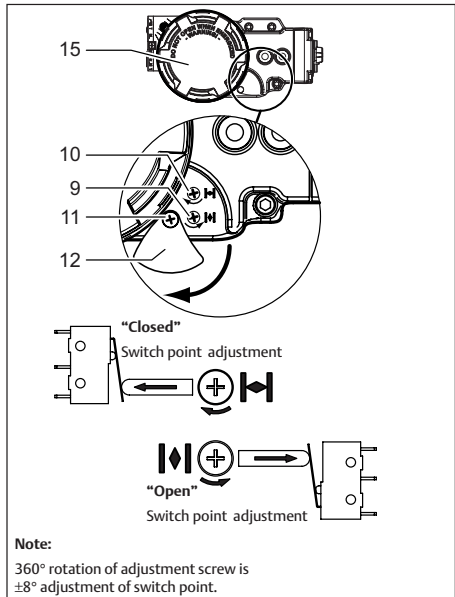

Fig. 5.3 Re-adjustment screws for “Open” and “Closed” position feedback
The QC41, QC42 and QC43 are equipped with non-intrusive switch adjustment. The adjustment screws are accessible behind a small shield in the front of the module (see fig 5.3). This means that the switch adjustment can be done without opening the module.
- In this case the top adjustment screw (see fig. 5.3), sets the switch point of the “Closed” position and bottom adjustment screw sets the switch point of the “Open” position.
#### Procedure (see fig 5.3):
### Procedure (see fig 5.3):